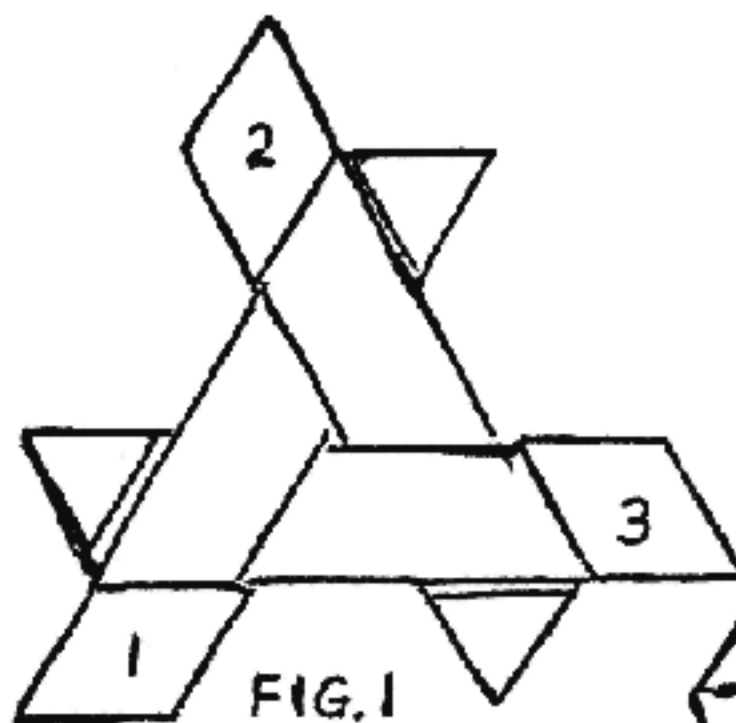

FIG. 1
Fig. 1 to form a triangular base.
1. Assemble three pieces as shown in Fig. 1 to form a triangular base.